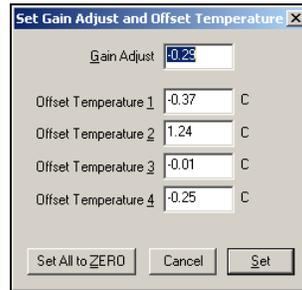

Figure 212
**Set Gain/Offset** – Opens the “Set Gain Adjust and Offset Temperatures” Window. This window displays the currently stored Gain/Offset values for the *KIC Explorer*. See Figure 212.
**Offset Temperatures #1-4** – Displays the current Gain and Offset values stored in the *KIC Explorer* for each of the 4 thermocouple ports. You can manually change the offset values if needed. See Figure 212.
**Set All to Zero** – Manually set the Gain and all Offset values to zero and closes the “Set Gain Adjust and Offset Temperatures” windows. See Figure 212.
**Cancel** – Cancels all actions and closes the “Set Gain Adjust and Offset Temperatures” window. See Figure 212.